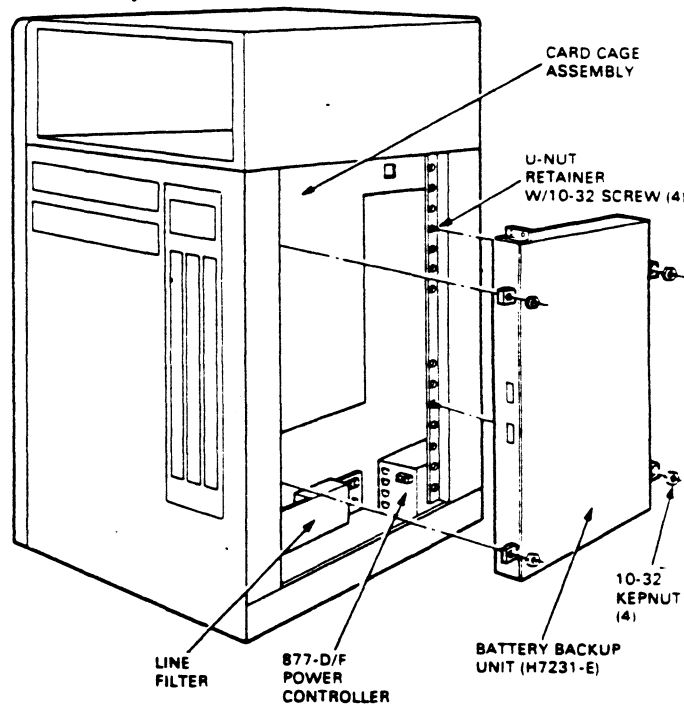

FIGURE 2-29 MOUNTING THE BBU
11. Carefully lift and line up the BBU enclosure with the four screws protruding from the cabinet frame. See Figure 2-29.